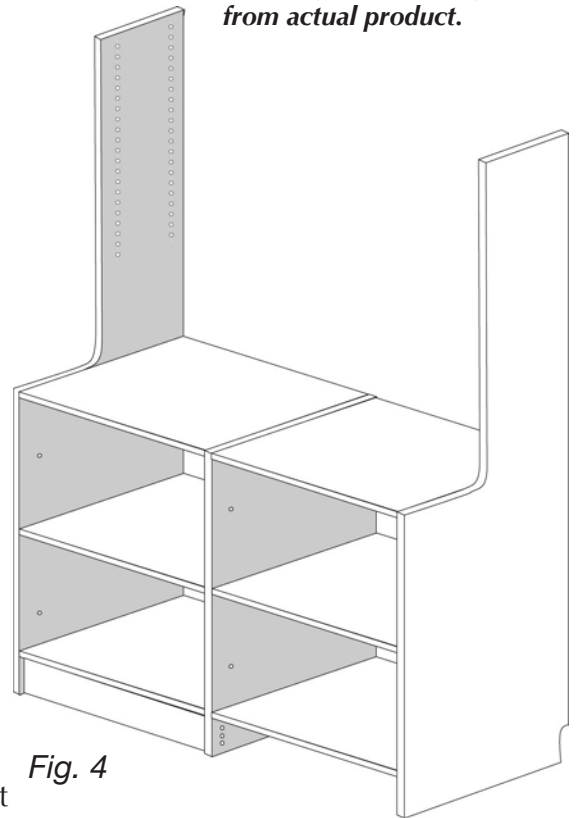

Fig. 4
6. Assemble double-wide hutch tower in its final location, following the basic steps in the single hutch assembly above, using the pieces shown at right. This may require a second installer. (See Fig. 4.)